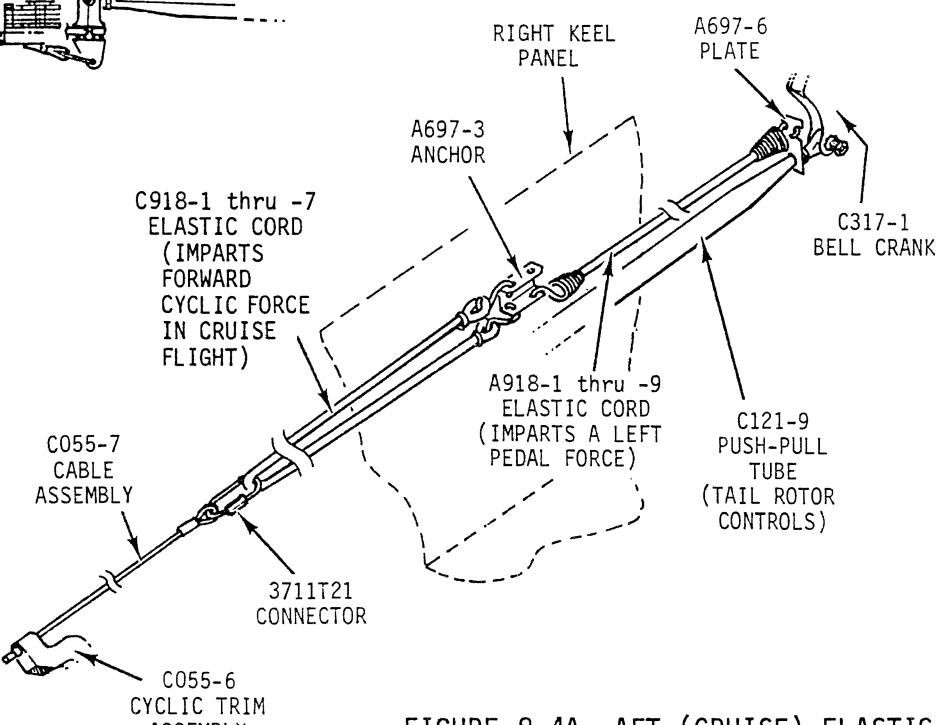

FIGURE 8-4A AFT (CRUISE) ELASTIC TRIM CORDS
- d) Reference Figure 8-4A. Slowly apply left pedal to stretch C918 elastic cord. Install and secure the 3711T21 connector between the C918 elastic cord and C055-7 cable assembly. Reference Figure 8-4A. Slowly release tension on rope. Remove rope.